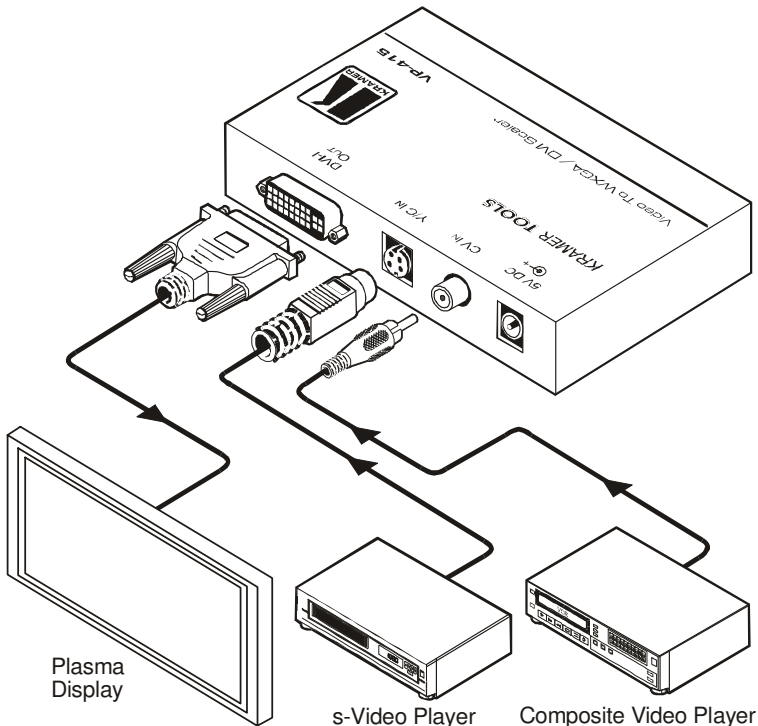

Figure 7: Connecting the VP-415
To connect the **VP-415**, as the example in Figure 7 illustrates, do the following¹:
3. Connect the 5V DC power adapter to the power socket and connect the adapter to the mains electricity (not shown in Figure 7).